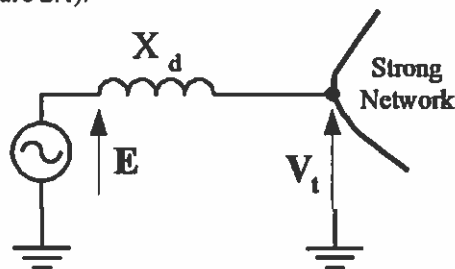

Figure 2.1: A generator connected to a very strong system
- b) A turbo-generator feeds into a very strong network that maintains the terminal voltage $V_t = 1\text{ p.u.}$ (Figure 2.1).